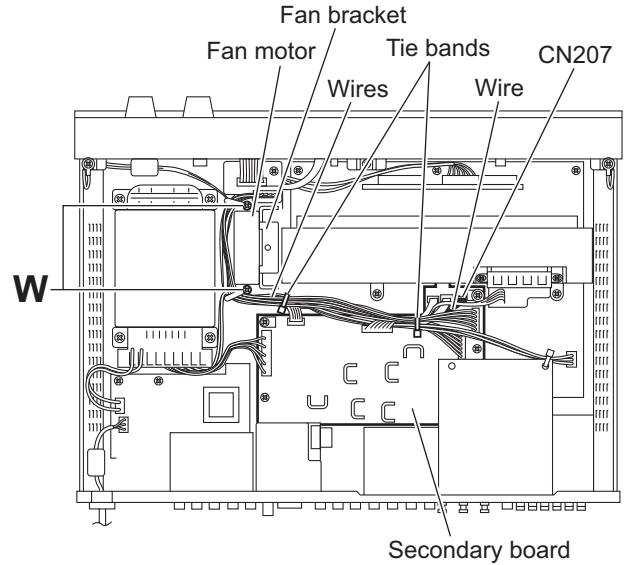
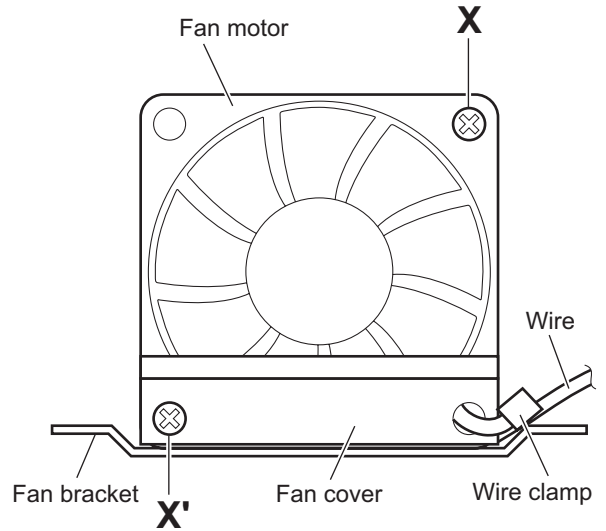

Fig.22
Fig.23
(See Figs.22 and 23)
- (1) From the top side of the main board, remove the tie bands bundling the wires. (See Fig.22.)
After reassembling, bundle the wires with the new tie bands as before. (See Fig.22.)
- (2) Disconnect the wire from the connector CN207 on the secondary board. (See Fig.22.)
- (3) Remove the two screws **W** attaching the fan bracket. (See Fig.22.)
- (4) Take out the fan motor with the fan bracket.
- (5) Remove the tie band bundling the wire. (See Fig.23.)
After reassembling, bundles the wire with the new tie band as before. (See Fig.23.)
- (6) Remove the screw **X** and screw **X'** attaching the fan motor to the fan bracket. (See Fig.23.)
When attaching the screw **X'**, attach the fan cover with it. (See Fig.23.)